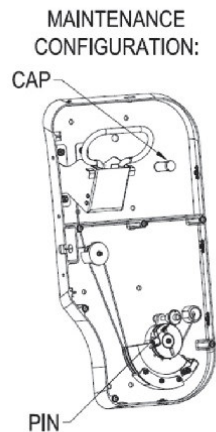

Figure 3 – Maintenance configuration mode
- (b) Put the Safety pin P/N G-C10005 in maintenance configuration mode. Lock the pulley rotation, Inserting the Pin into the hole of the Lower Pulley P/N 309877A [309771A], refer to Figure 3.
(d) Remove the Upper pulley P/N 309774A from the Main bush P/N 309772A and re-install the Upper pulley P/N 309774A as detailed in Figure 3 for left ELS and Figure 4 for right ELS.